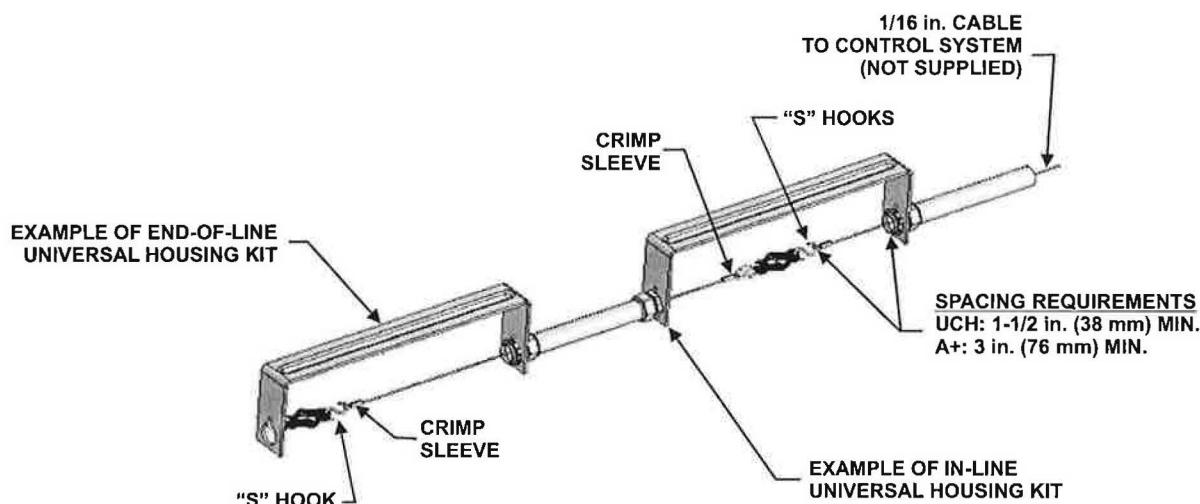

Figure 4-41. Universal Link Housing Installation
6. Install detectors of proper rating as described in Paragraph 3-2.4. To install detectors, follow the steps below. Always start detector installation at the last detector (see Figure 4-41).